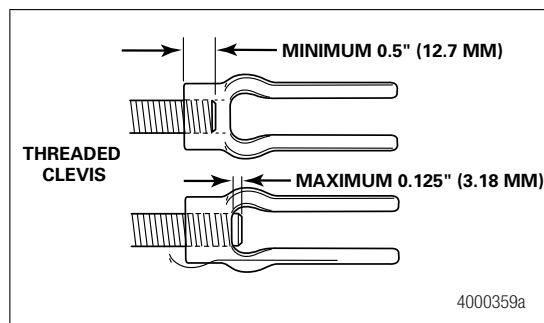

Figure 5.11
5. Verify that the thread engagement between the clevis and push rod is 0.5-0.625-inch (12.7-15.9 mm). Figure 5.11.